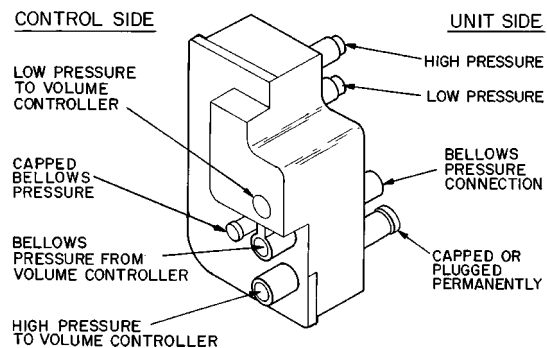

Fig. 5 — Filter/Manifold Connections
4. To prepare the control filter for installation, be sure that the bellows chamber filter plug is pushed tightly into the correct connection. Figure 5 shows the connection ports on both sides of the filter. The lower bellows port on the unit side and the small bellows pressure connection on the control side should be capped or plugged before installation.